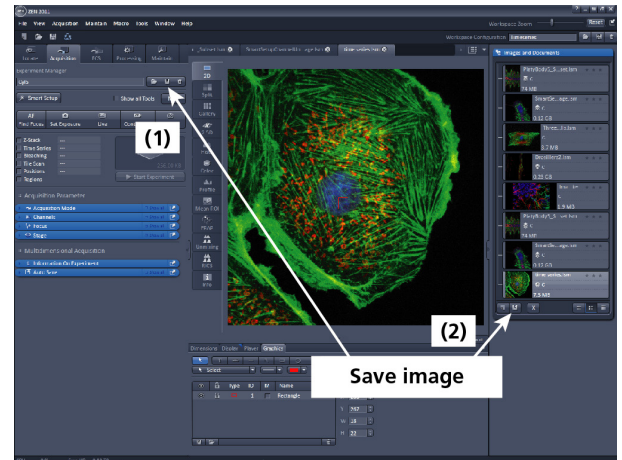

Fig. 26 Save Image buttons in ZEN
- To save your acquired or processed images, click on the **Save** or **Save As** button in **File** menu, or click the  button in the main toolbar (Fig. 26/1), or click on the  button at the bottom of the **File Handling Area** (Fig. 26/2)